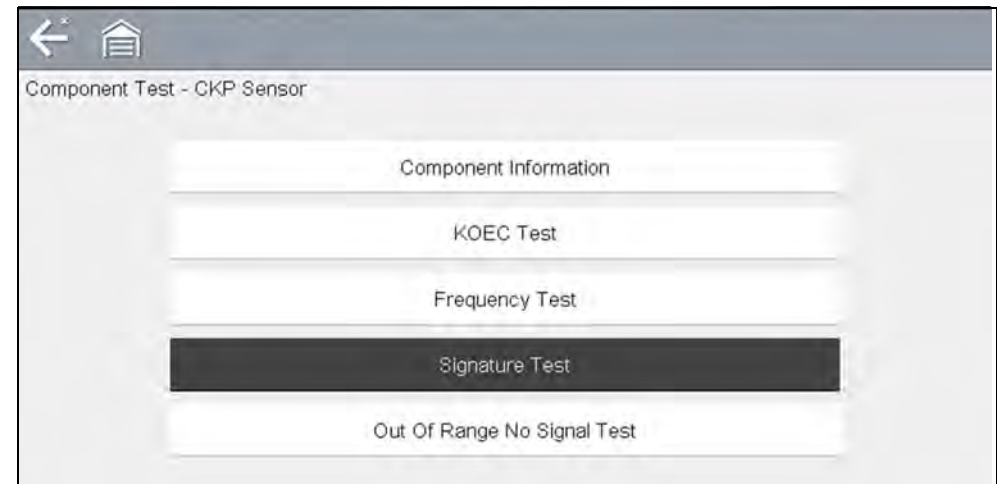

Figure 10-7 Component Test Menu
2. Select a **Test** from the Component Test menu (*Figure 10-7*).